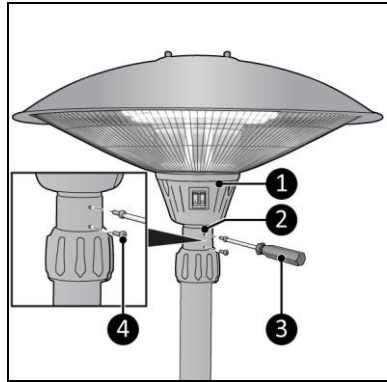

Figure 6
6. Connect the heating cap (Figure 6, pos. 1) to the adjustable tube (Figure 6, pos. 2) with two small screws (Figure 6, pos. 4) using a Phillips screwdriver (Figure 6, pos 3).